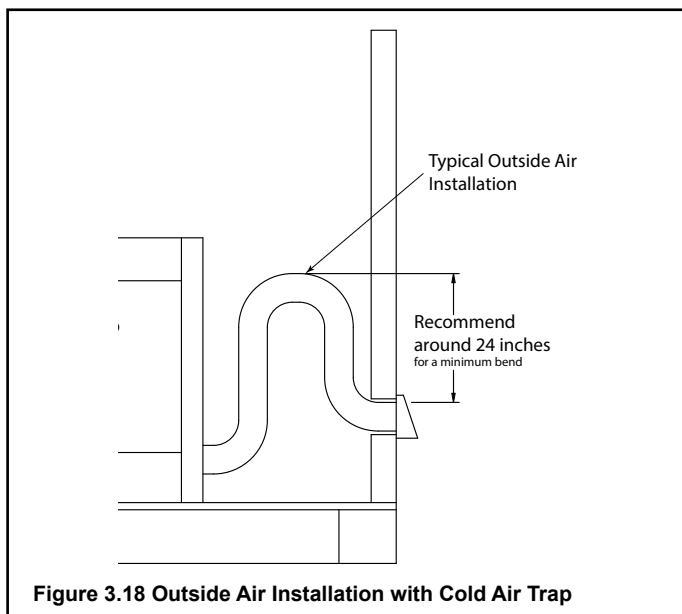

Figure 3.18 Outside Air Installation with Cold Air Trap
An outside air kit must be used for combustion. Hearth & Home Technologies recommends you utilize the shortest duct run and install a P-trap (see Figure 3.18) to optimize the performance of the outside air kit with a maximum length of 40 ft. The outside air inlet hood should be positioned in a manner that will not allow snow, leaves, etc. to block the inlet. In some installations the air duct may need to be run vertically. In such an installation, a 3 ft (914 mm) height difference must be maintained from the top of the uppermost chimney section to the outside air inlet hood.
- ▶ Use 6 in. (152 mm) UL181 Class1 or Class 0 rigid or flexible ducting (not supplied) to directly connect outside air to fireplace intake. Insulate the pipe to prevent frost condensation. See Figure 3.18.